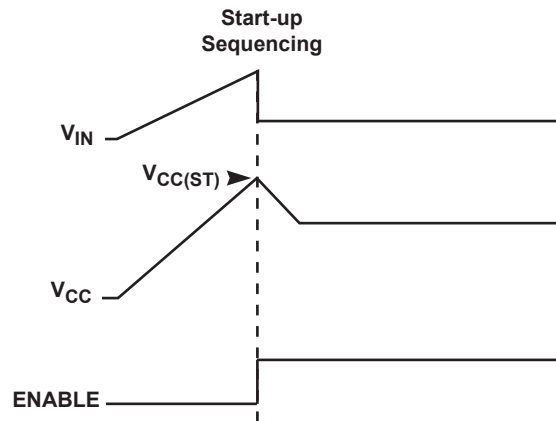

Figure 9.7 : Start-up Sequencing Diagram
Prior to start-up the V_{IN} pin charges up the V_{CC} capacitor through a diode between V_{IN} and V_{CC} . When V_{CC} is fully charged to a voltage higher than the start-up threshold $V_{CC(ST)}$, the ENABLE signal becomes active and enables the control logic, shown by Figure 9.7. When the control logic is enabled, the controller enters normal operation mode. During the first 3 half AC cycles, OUTPUT(TR) keeps high. After the dimmer type and AC line period are measured, the constant current stage is enabled and the output voltage starts to ramp up. When the output voltage is above the forward voltage of LED, the controller begins to operate in constant current mode.